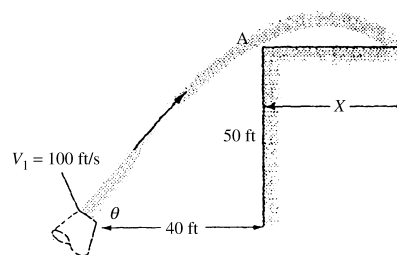

Fig. P3.152
**3.152** A free liquid jet, as in Fig. P3.152, has constant ambient pressure and small losses; hence from Bernoulli's equation  $z + V^2/(2g)$  is constant along the jet. For the fire nozzle in the figure, what are (a) the minimum and (b) the maximum values of  $\theta$  for which the water jet will clear the corner of the building? For which case will the jet velocity be higher when it strikes the roof of the building?